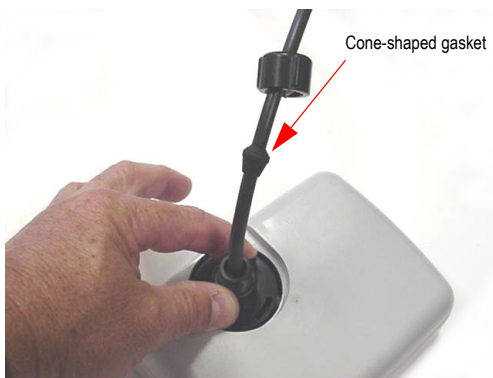

Figure 33 Tightening Connector and Latchplate
- 2 Tighten the connector by making a ¼ turn to the right as shown in Figure 33.